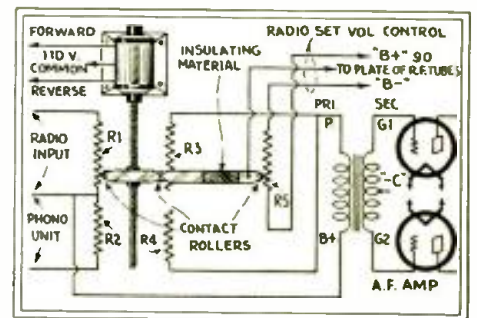
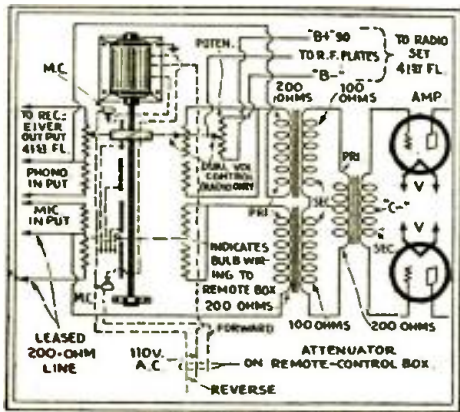

Fig. 14
Fig. 11
on the R.F. tubes. The complete attenuator circuit is shown in Fig. 11.
simplest, perhaps, is the "H" pad, which usually consists of two ordinary potentiometers coupled together. In the remote-control attenuator of the New Yorker, a double "H" pad is used (Fig. 14) but the components are, instead of ordinary potentiometers, the familiar wire-wound voltage dividers (R, Fig. 11), to which connection is made by the use of the roller-contacts (C) which ride upon the resistance element.